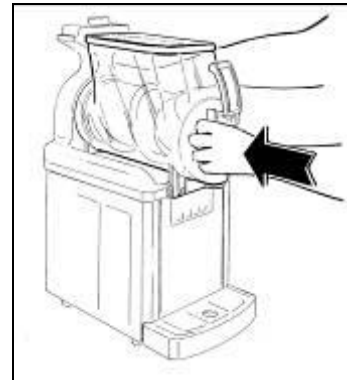

Fig. 16
- **R**eassemble the bowl by positioning it back into its seat, verifying that it faces in the correct direction and it is held in place by its seal (see fig.16).